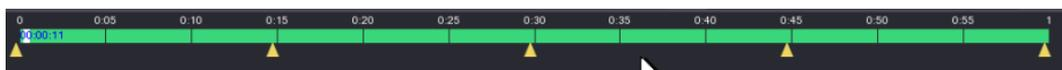

Figure 5-114
Step 5 Start playing back splices. See Figure 5-114.